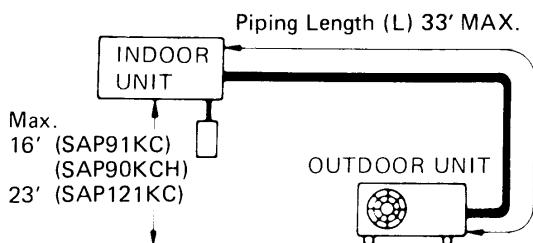

Fig. 2
- install unit within 16'(SAP91KC & SAP90KCH), 23' (SAP121KC) up or down of outdoor unit and within a total of 33' from outdoor unit. Fig. 2.